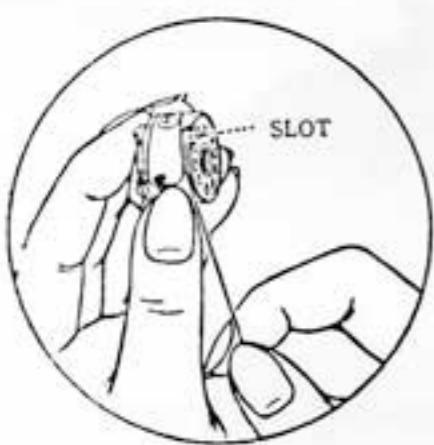

Fig. 6
2. While holding the bobbin case as before, grasp the thread end with your right hand and guide it into the cross slot (Fig. 6).
3. Then pull it through under the tension spring of the bobbin case (Fig. 6) until it enters the delivery eye (Fig. 7).